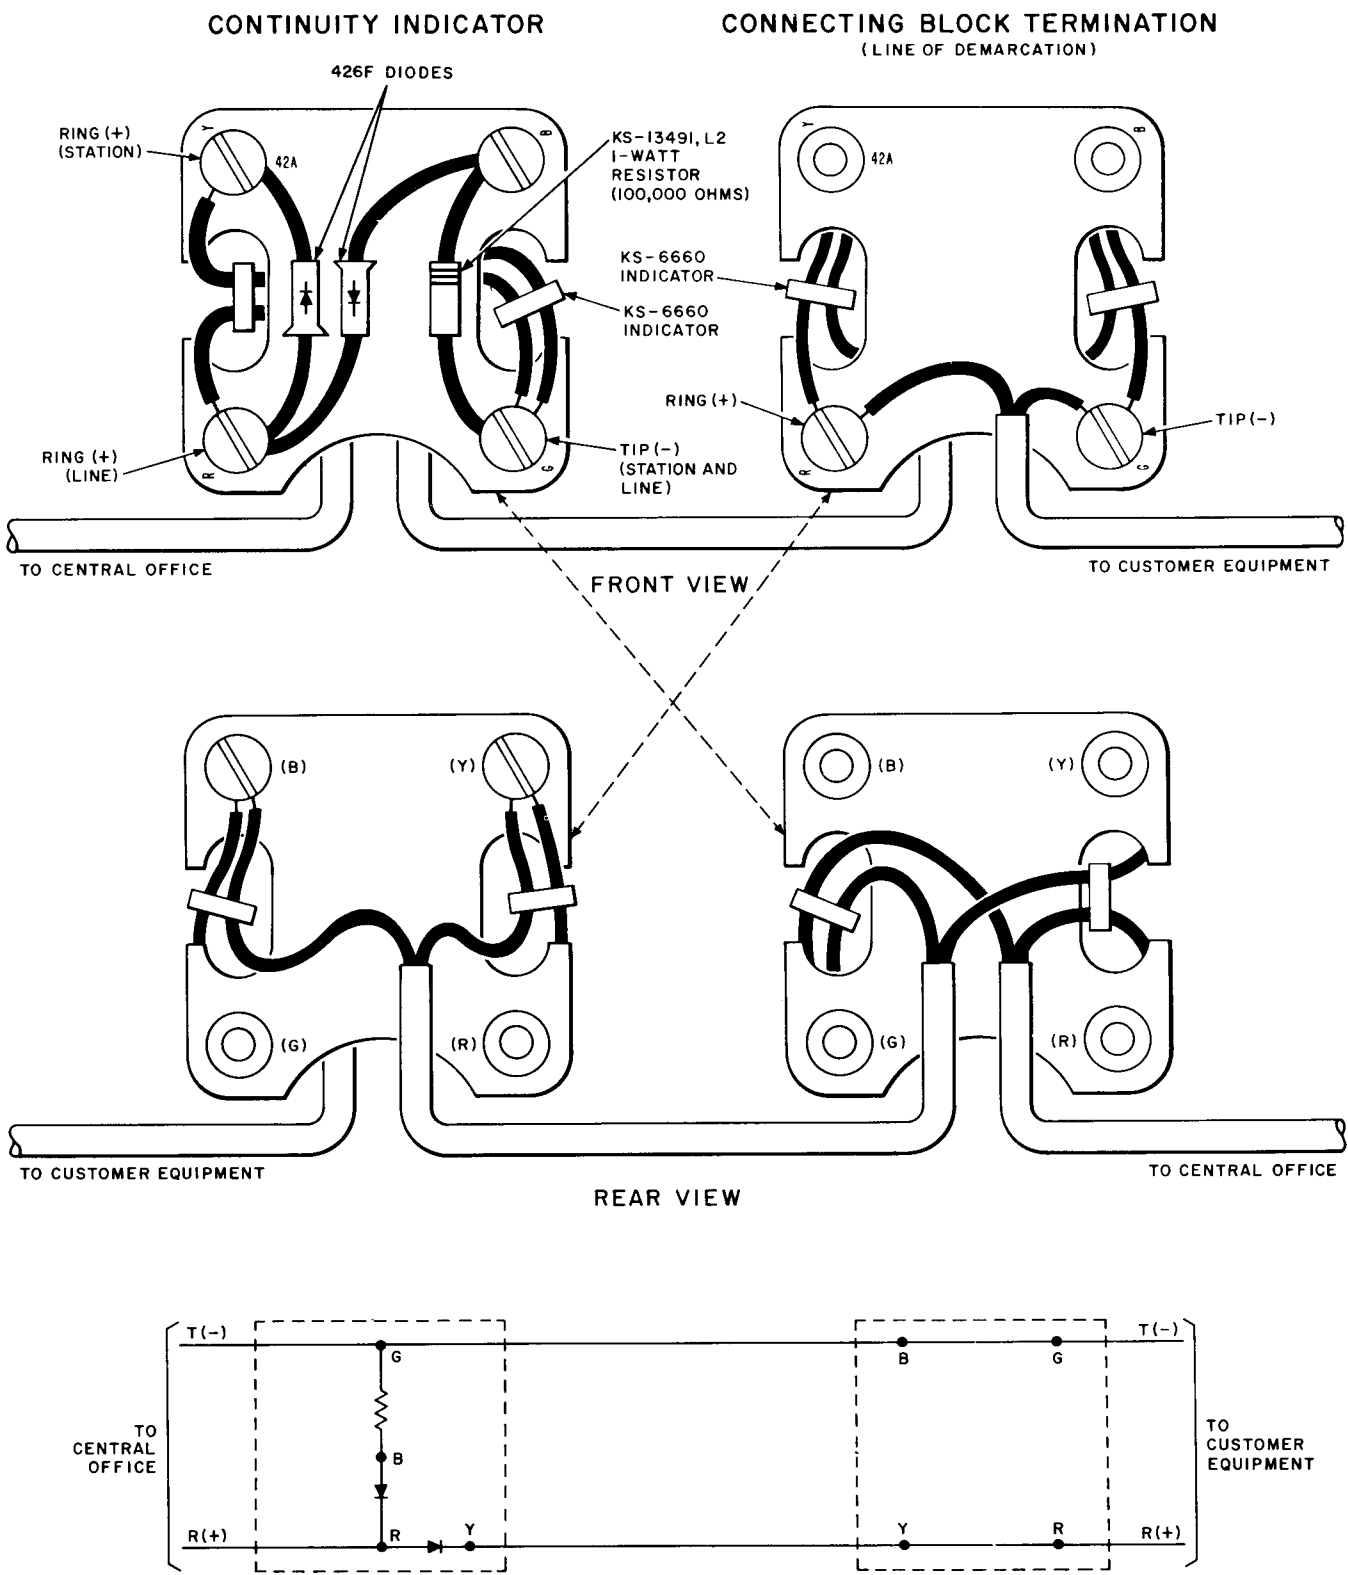

Fig. 4—DC Telegraph Loop Continuity Indicator—COAM Equipment, Neutral Operation (For Alternate Method See Fig. 6)
6.04 For loops having COAM equipment, the terminating connecting block will be mounted at the location designated by the customer and will be considered the line of demarcation. The continuity indicator and terminating connecting block connections for neutral operation are shown in Fig. 4 and 6;